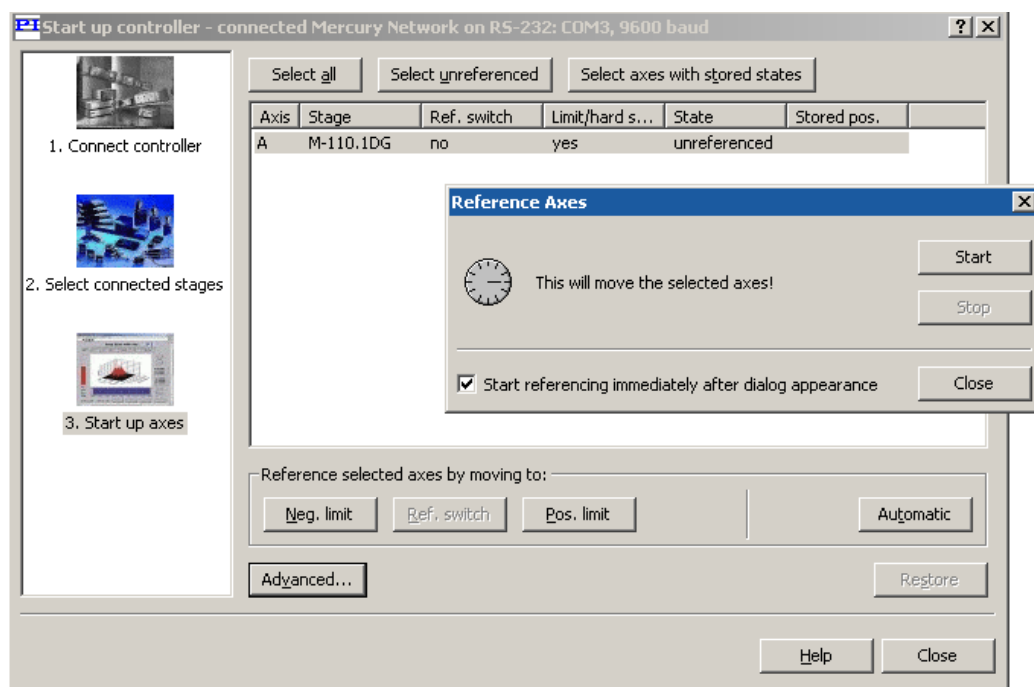

Fig. 6: PIMikroMove™ Start up controller, Step 3: Reference the axis
- 9 Make sure that the controller knows the absolute position of each axis (i.e. that the axis is referenced). If the software did not prompt for referencing (as in Fig. 6), it may be assuming that the current position is 0. Arrange for the axis to move toward and stop at a limit or reference switch. See the respective software or commands manual for details.